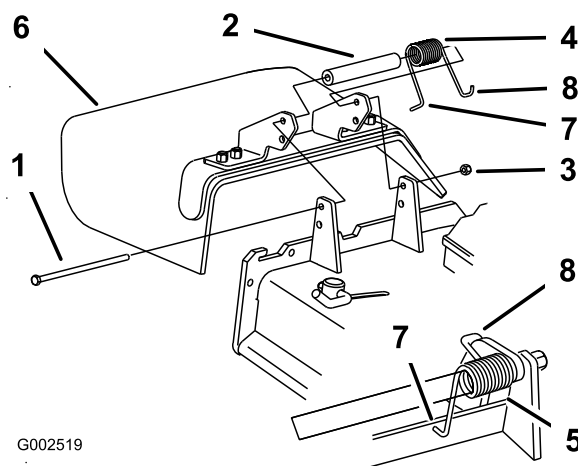

Figure 90
1. Remove the locknut, bolt, spring and spacer holding the deflector to the pivot brackets (Figure 90).
Note: Make sure the **L** end of the spring is installed behind the deck edge before installing the bolt as shown in Figure 90
5. Place the **J** hook end of the spring around the grass deflector (Figure 90).